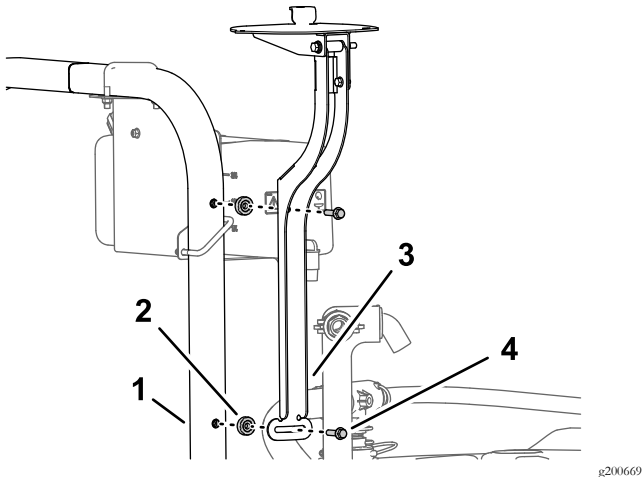

Figure 154
1. Assemble the receiver mount and spacer (3/8 x 7/16 inch) to the roll bar with the flange-head bolt (3/8 x 1-1/2 inches) as shown in Figure 154.